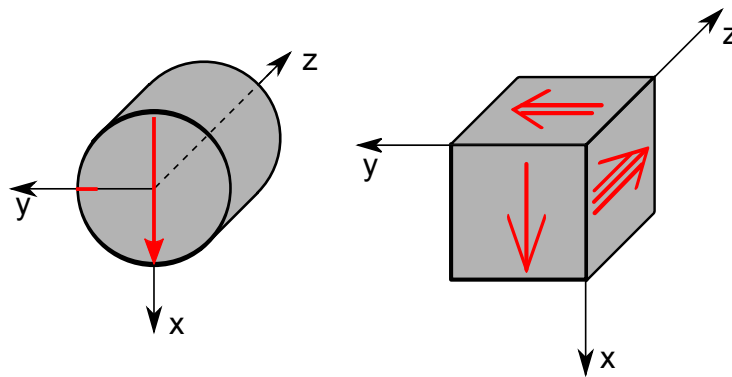

Figure 9: Specimen marking convention for cylindric and cubic specimens, right-handed coordinate system. Single arrow represents the x-axis of the specimen.
2. Insert the specimen into the tumbler (Figure 8). The front face of the specimen must be oriented toward the coil and the arrow representing the x -axis of the specimen coordinate system (Figure 9) must point upward.